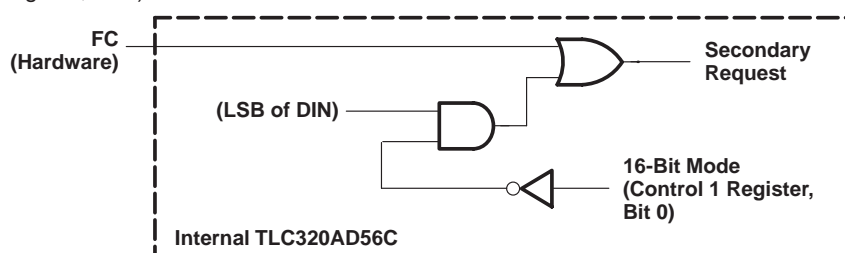

Figure 3–2. Hardware and Software Ways to Make a Secondary Request
1. Figures 3–3 and 3–4 show the two different ways FC requests secondary communication words as well as the timing for \overline{FS} , DOUT, DIN, and SCLK. The examples span two primary communication frames. Figure 3–3 shows the use of hardware function control.
In Figure 3–3, FC is clocked in and latched on the rising edge of frame sync (\overline{FS}). This causes the start of the secondary information 32 FCLKs after the start of the primary communication frame. Read and write examples are shown for DIN and DOUT.
2. Figure 3–4 shows the use of software function control.